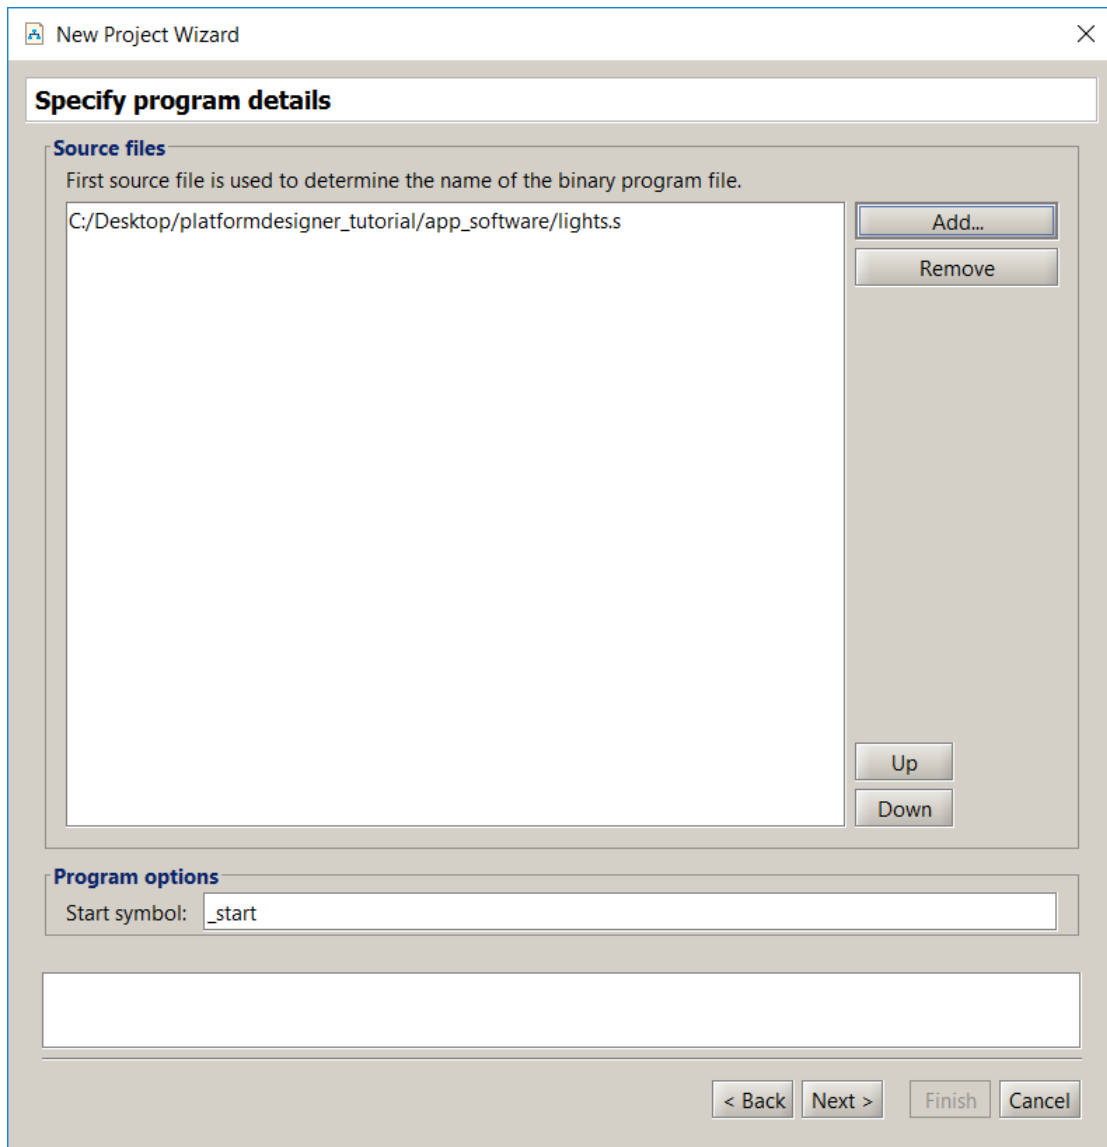

Figure 29. Specify the application program to use.
5. If you wish to use a Nios II assembly-language application program, select **Assembly Program** as the program type from the drop-down menu. If you wish to use a C-language program, select **C Program**. Click **Next**, leading to Figure 29.
6. Click **Add...** to display a file selection window and choose the *lights.s* file, or *lights.c* for a C program, and click **Select**. For this tutorial, we have chosen to use the assembly program. We placed the application-software files in the directory *platformdesigner\_tutorial\app\_software*. Upon returning to the window in Figure 29, click **Next**.